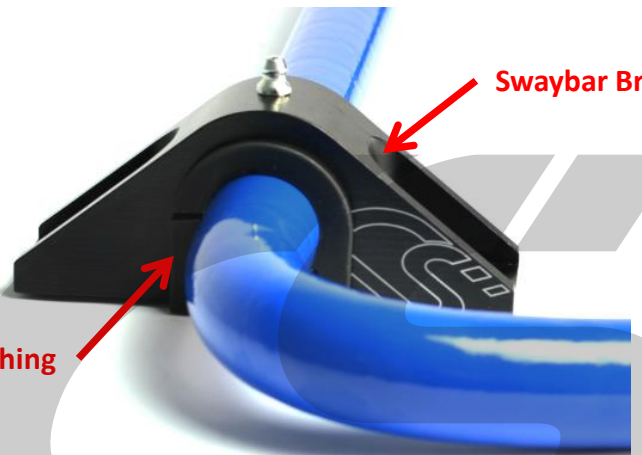

Figure 3c
- b) **Assemble the sway bar brackets on the CorkSport Rear Sway bar.** Refer to **Figure 3b** for final assembly and **Figure 3c** for a detailed picture. Make sure to press the Bushings up against the bushing collar stops.